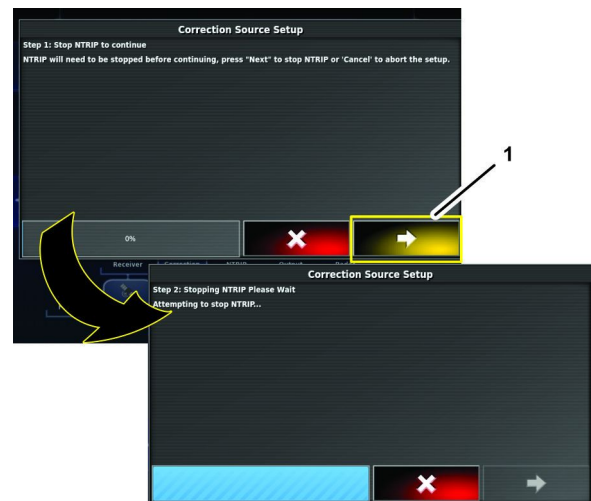

Figure 115
5. When the Correction Source Setup wizard displays, press the next icon (Figure 115).